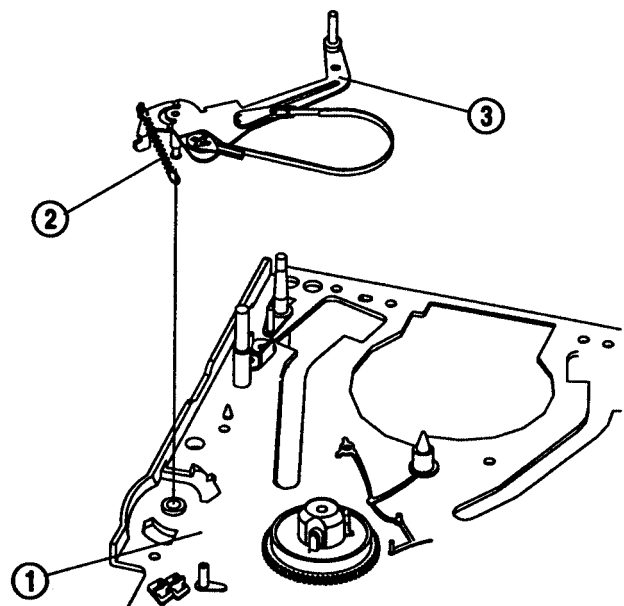

Fig. 26- Tension Band Assembly Removal (1)
Tension Band Assembly Removal (Fig. 26, 27)
1. Remove the tension spring from the main base (Fig. 26)